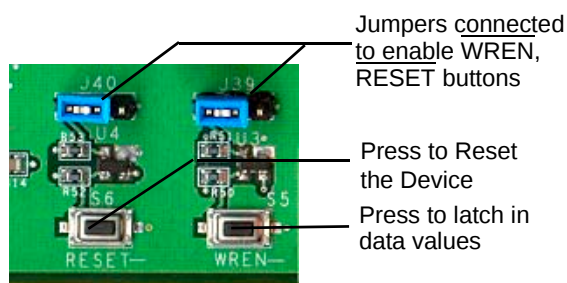

Figure 6-3. Write Enable and Reset Buttons
WREN(J39)	Control Write Enable Header • When the jumper is connected across the middle and right pins (see Figure 6-3 on page 17), the push-button signal controls the WREN input to the chip • When the jumper is connected across the middle and left pins, $\overline{\text{WREN}}$ is permanently ACTIVE (LOW)
3. Once the data signals are set up, they can be latched into the respective control latches by pressing the **WREN** (S5) push button (see *Figure 6-3*).
6. Make sure the jumpers for $\overline{WREN}$ (J39) and $\overline{RESET}$ (J40) are configured to enable the push buttons (see Figure 6-3 on page 17).